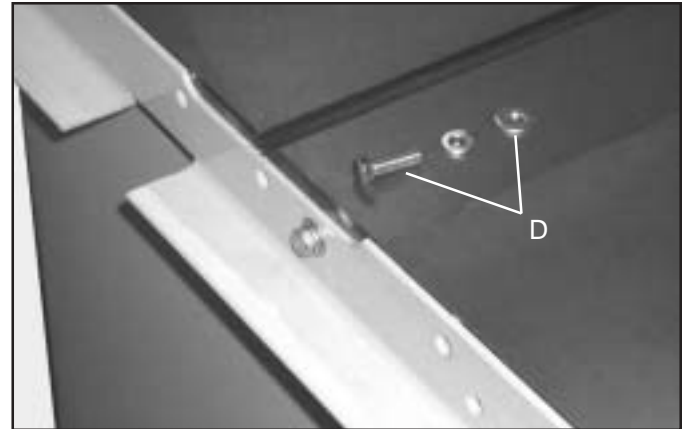

Fig. 8
For Delta Unisaw Thread the two 3/8-24 x 1-1/4" long hex head screw, lock washer and flat washer (D), supplied, Fig. 8, through the two holes in the rail and into the two threaded holes in the saw table.